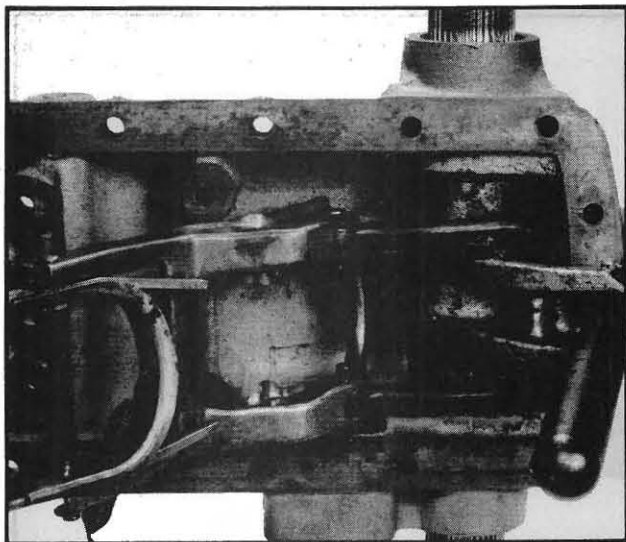

Fig. 329
4. Install the hand control fork so the reinforcing plate is toward the rear of the unit, as shown in Fig. 329. Secure it with the clevis pins and cotter pins.